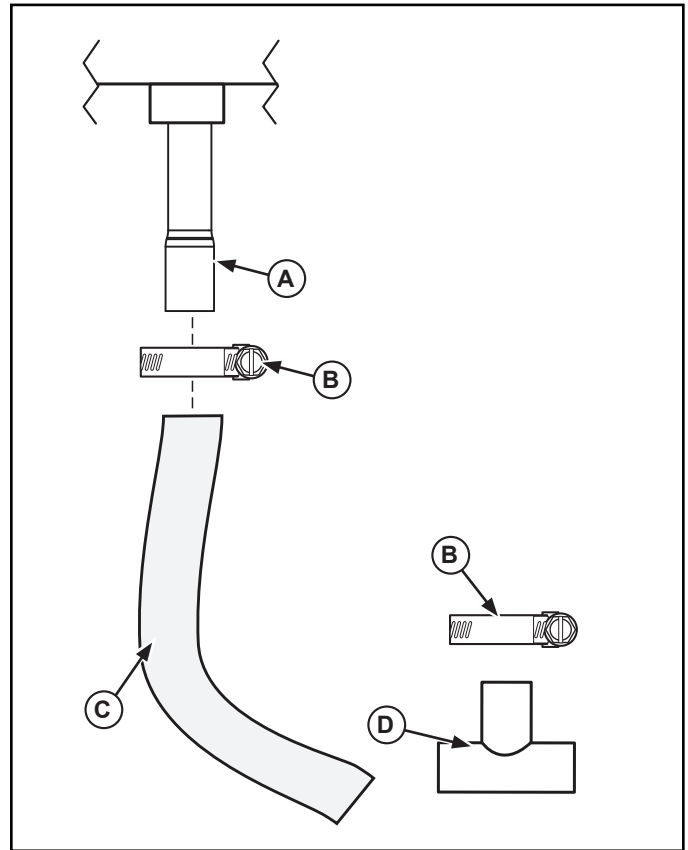

Figure 7. Water Reservoir and Well Assembly.
- Cut and install the drain tubing (C), "T" fittings (D) and clamps (B) as needed and route to drain. See Figure 7.